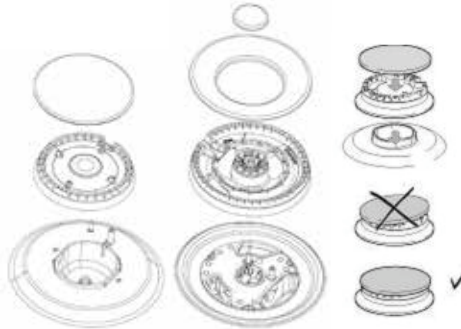

Fig. 6.
- Being sure that the tabs on burner head are aligned and inserted into notch of burner base on cooktop. Assemble center burner, when used, as shown in Fig. 6.